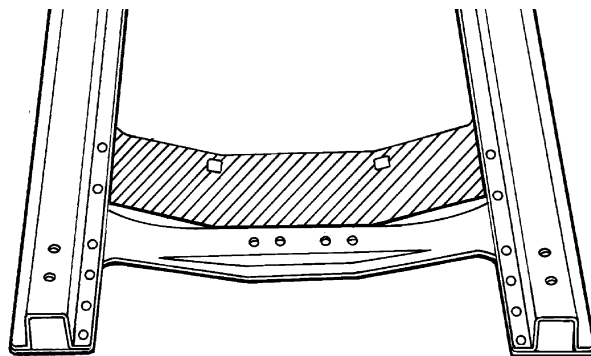

Figure 1
3. The stock front crossmember must be trimmed at this point. Refer to Figure 1 to see what to trim off. A cutting torch works best for this; however, a saw could be used. In addition, the flanges on the underside of the frame rails which were attached to the trimmed off crossmember section should be trimmed off. Note also that the frame shown is a parallel leaf spring, solid axle type front end. The knee action front crossmember should be trimmed in a similar manner. See Figure 2.